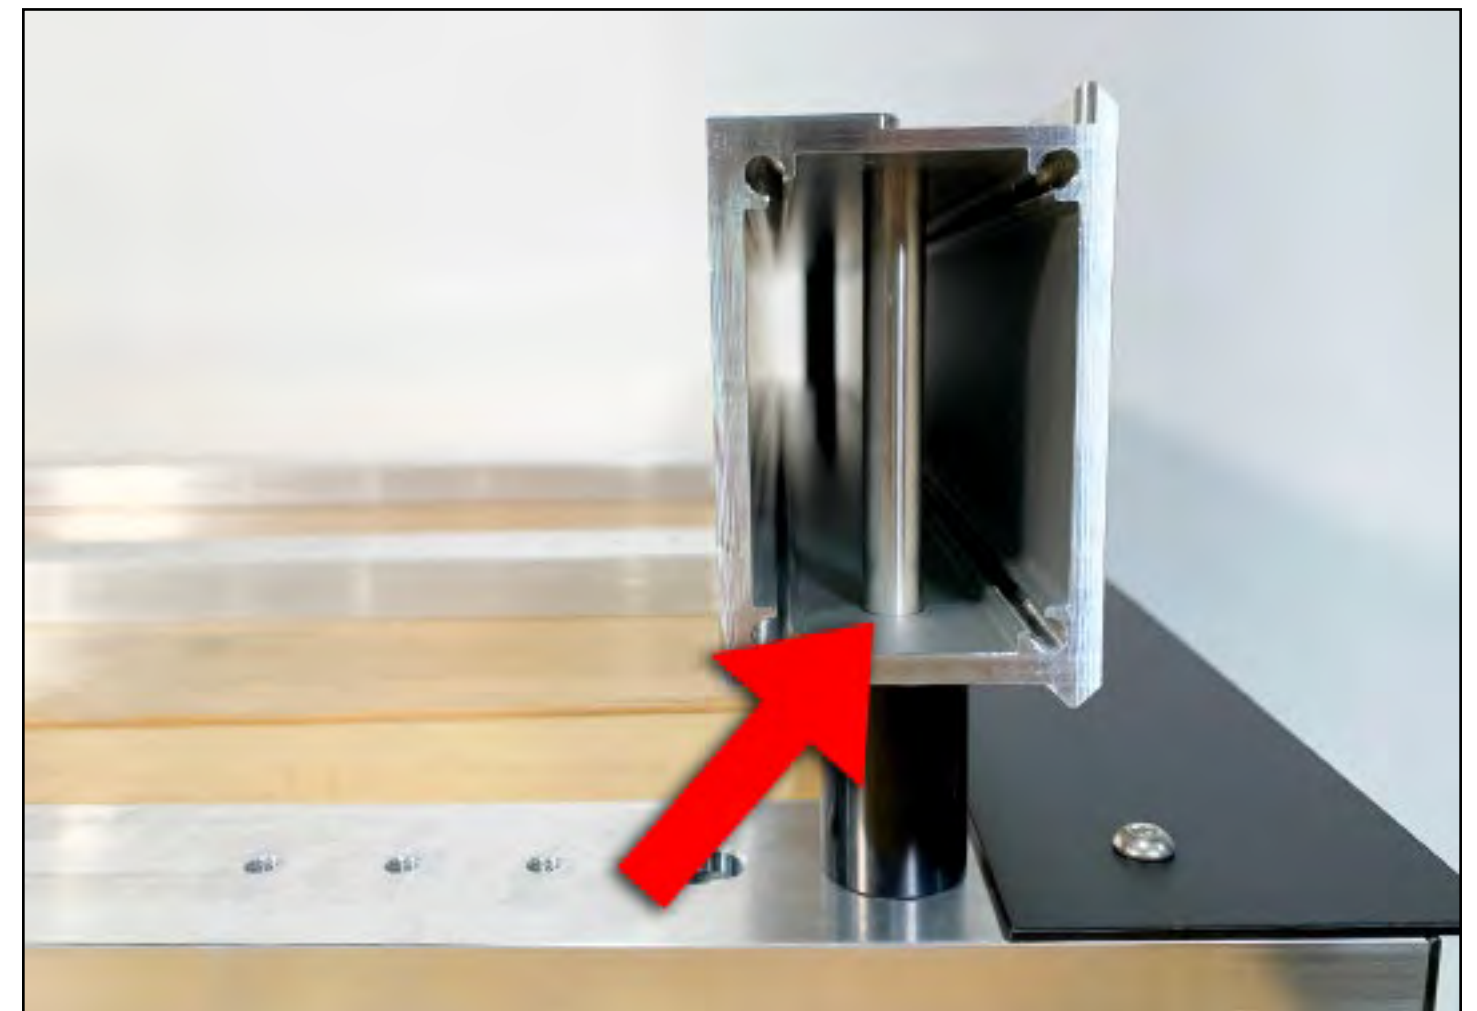

Figure 2-3
- b. Ensure bolts fit snugly into the lower through-holes with the shoulder flush against the rail as shown in **Fig. 2-3**.